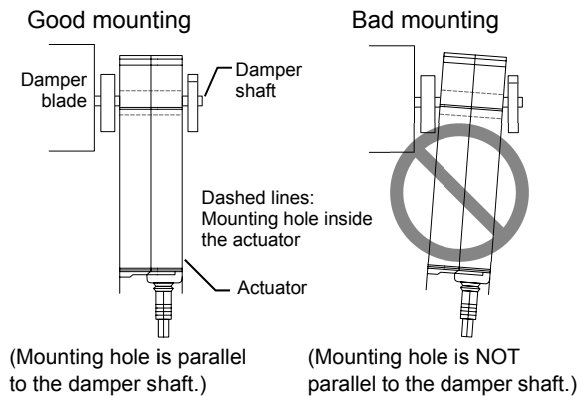

Figure 16. Good and bad mounting orientation for 15–85 mm long damper shaft
- 7) Fix the clamp on the "R" face of the actuator with the C-clip pulled out at the step 1). See Fig. 16 for the actuator mounting orientation.